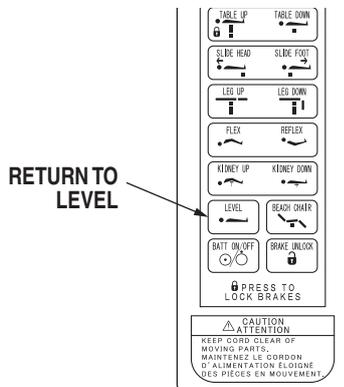

Figure 2-15. Return to Level
j. Return To Level To return the table top to a level position, press the LEVEL button (figure 2-15).